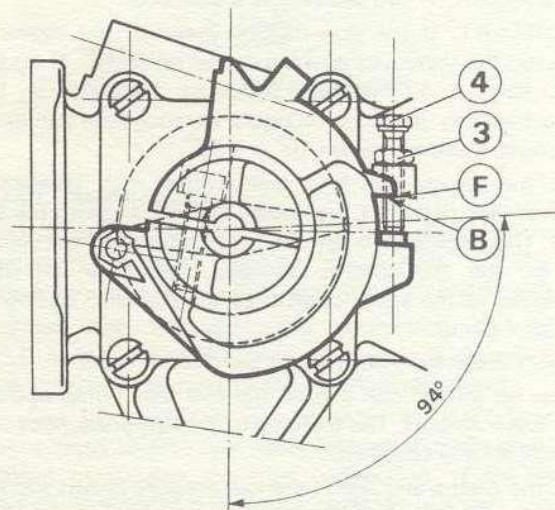

Fig. 2.09 Throttle maximum opening adjustment
With the engine switched off, depress the accelerator pedal fully and slacken locknut (3) (Fig.2.09). Turning the screw (4), raise the mark "B" (94°) on the control drum until it corresponds with the bottom face "F" on the air distributor projection.